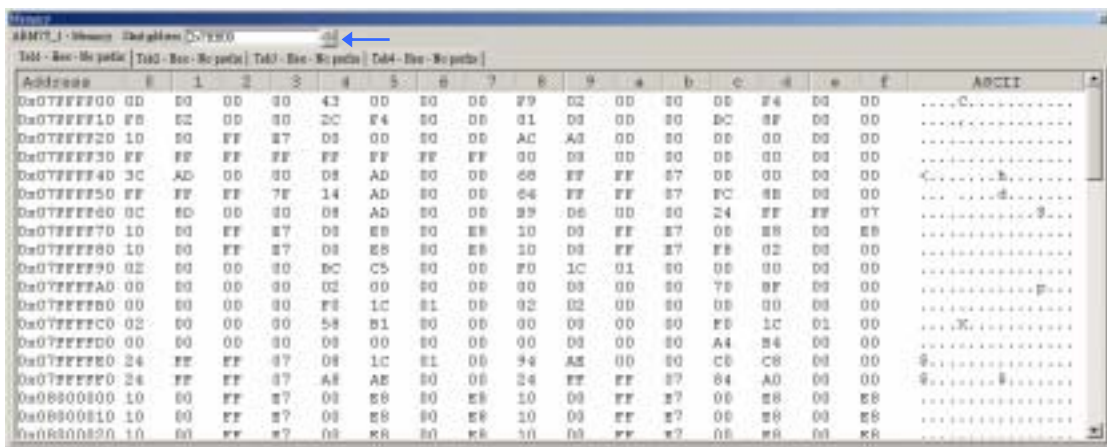

Figure 19. Examining contents of memory.
- 5.1 Addresses and contents of variables on Figure 19 shows that addresses of interest are in the region of **0x07FFFFD0**, so set the **Start address** value to, say, **0x07FFFF00**.